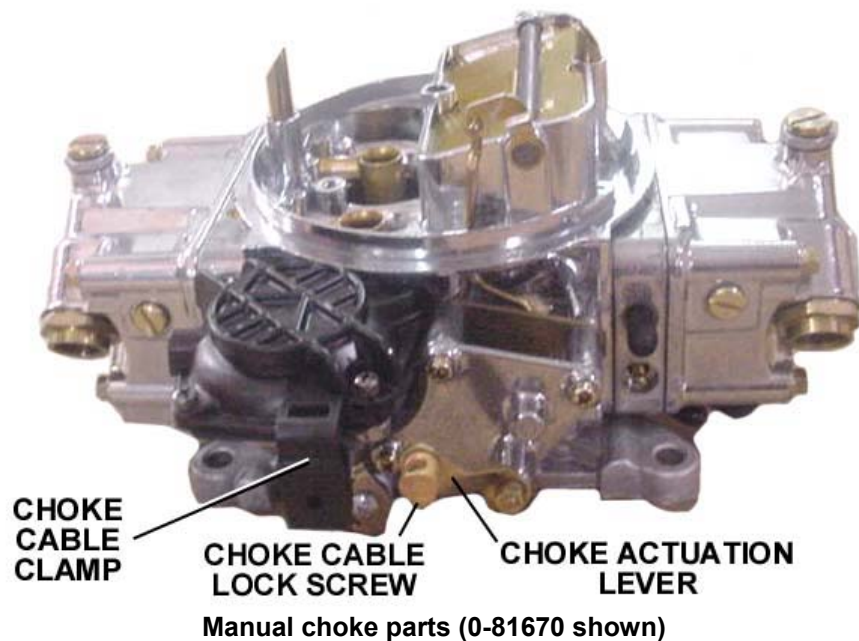

**Figure 9**
3. If the fast idle RPM is too low or too high for your preferences, TURN THE ENGINE OFF. Advance the throttle to wide-open, exposing the fast idle set screw below the choke housing (See Figure 9).